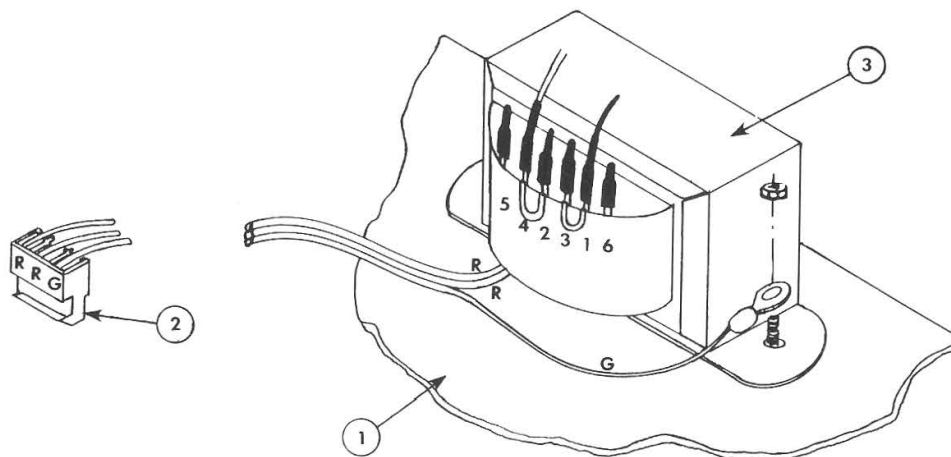

FIGURE 4-15
F. TRANSFORMER ASSEMBLY DMP-805 (See Figure 4-15)